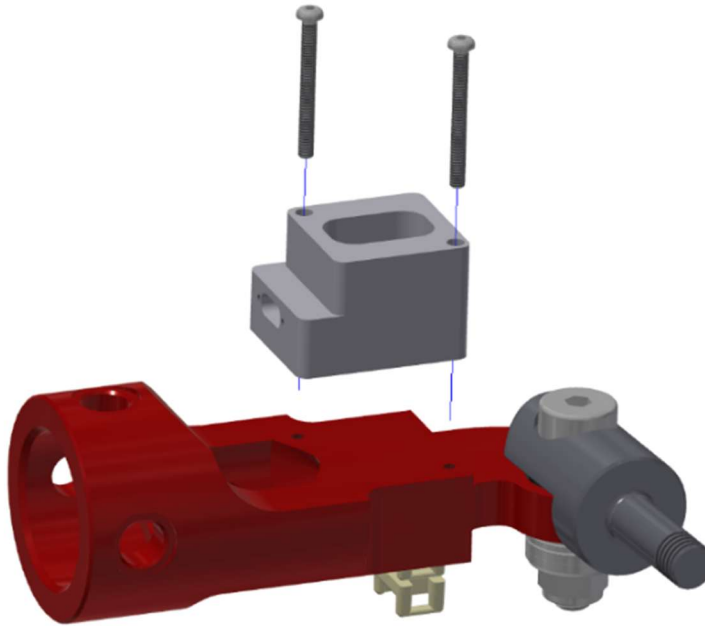

Figure 11-37. Install the Upper Arm On Board DAS Bracket (474-6118) to the Distal Upper Arm Tube (484-6110-1,2)
11.3.13 Install the Upper Arm On Board DAS Bracket (481-3602) to the Distal Upper Arm Tube (484-6110-1,2) using two M3 X 0.5 X 10 LG. BHCS (Figure 11-37).